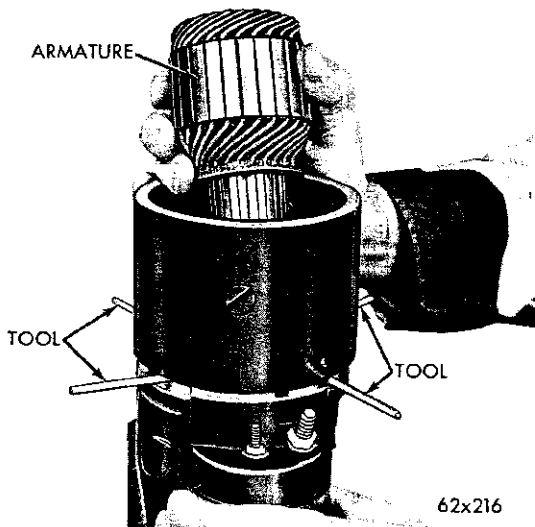

Fig. 43—Installing Starter Armature
(23) Install the armature thrust washer on the gear housing Fig. 19) and enter the armature into the field frame and gear housing (Fig. 43); carefully engaging the splines of the shaft with the reduction gear.